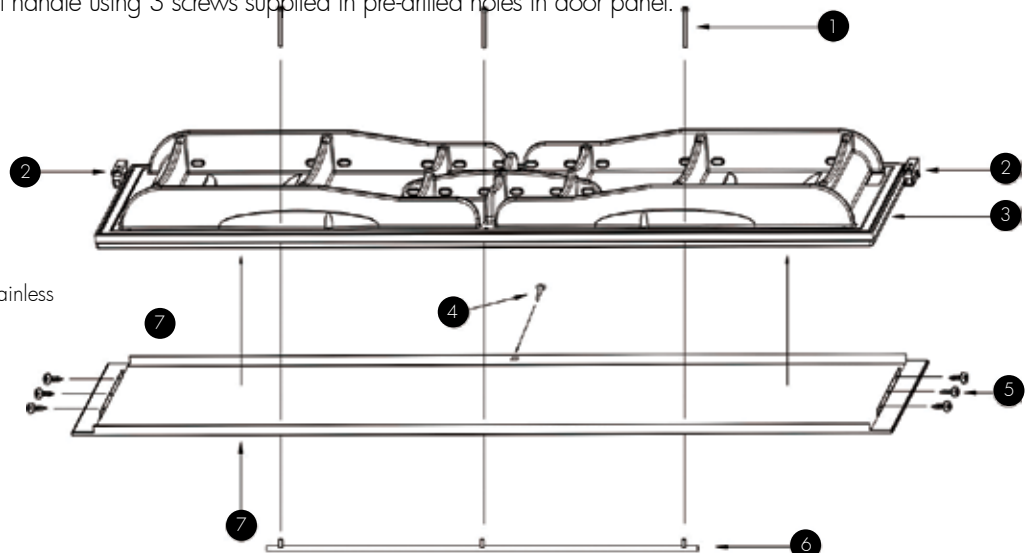

Fig 4
Stainless steel door panel (see figure 4)
1. Hinges. Unscrew the screws for the hinges, upper and lower (point 2 in fig. 4). Then mounts the hinges on the door. Remember the difference between right and left hinge!